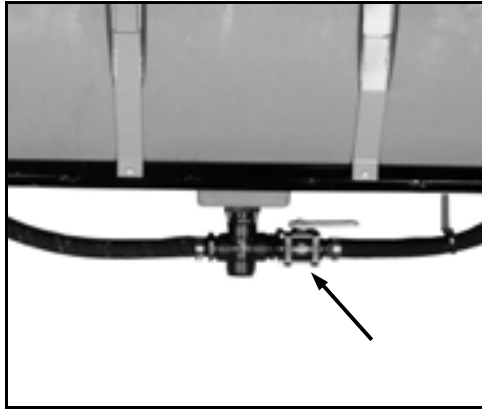
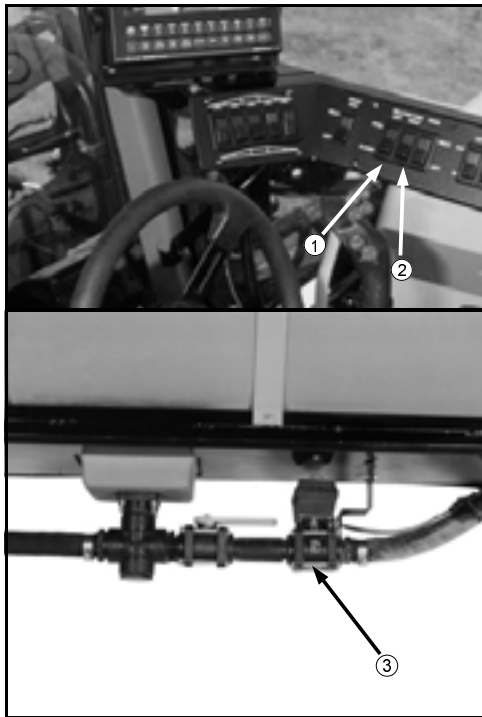

FIG 5.77
FIG 5.78
To shutoff either or both solution tank sumps, manually close either or both 1½" ball valve(s) located under each solution tank (fig 5.77). Your sprayer may be equipped with optional 1½" electric tank shutoff valves (fig. 5.78, item 3).
To operate the electric tank shutoff valves, locate the solution tank switches in the console. To open or close the left solution tank, depress the "OPEN" or "CLOSED" side of the left switch (fig 5.78, item 1). To open or close the right solution tank, depress the "OPEN" or "CLOSED" side of the right switch (fig. 5.78, item 2).